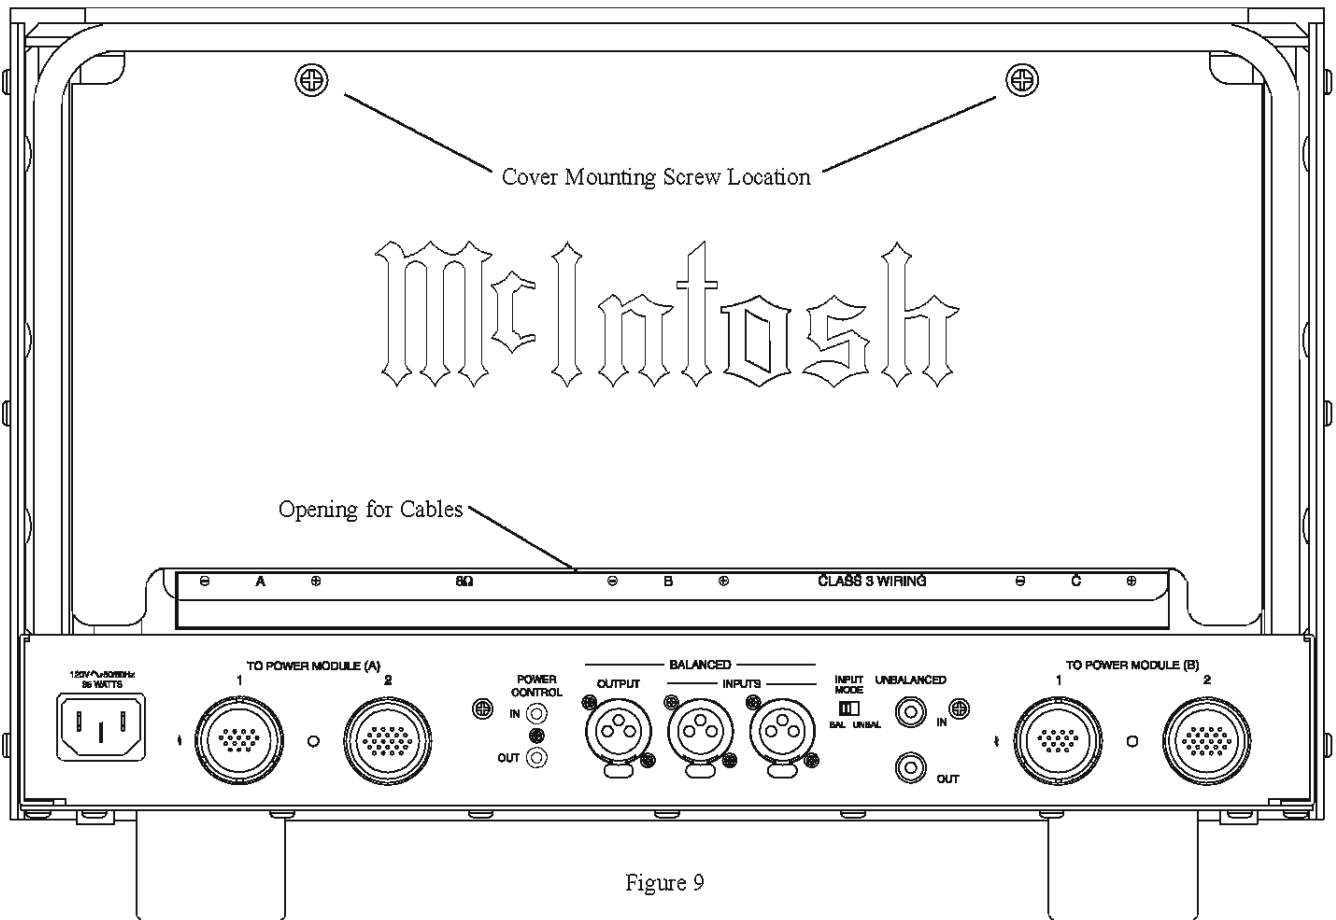

Figure 9
2. Using the supplied "T" shaped tool, remove the two screws from the Rear Cover on the MC2KW Output Module and remove the cover. Place the cover and screws in a safe location. Refer to figures 9 and 10.
Note: The MC2KW Output Module Removable Covers consist of a Rear piece and Top piece. In certain installations the removal of the Top Cover in addition to the Rear Cover might provide easier access to the Output Connection Terminals, refer to figures 9, 10 and 11.
5. Re-attach the previously removed Cover(s) making sure to route the Loudspeaker Cables between the top of the Stainless Steel Chassis and underneath the bottom Rear Cover. Refer to figure 9.